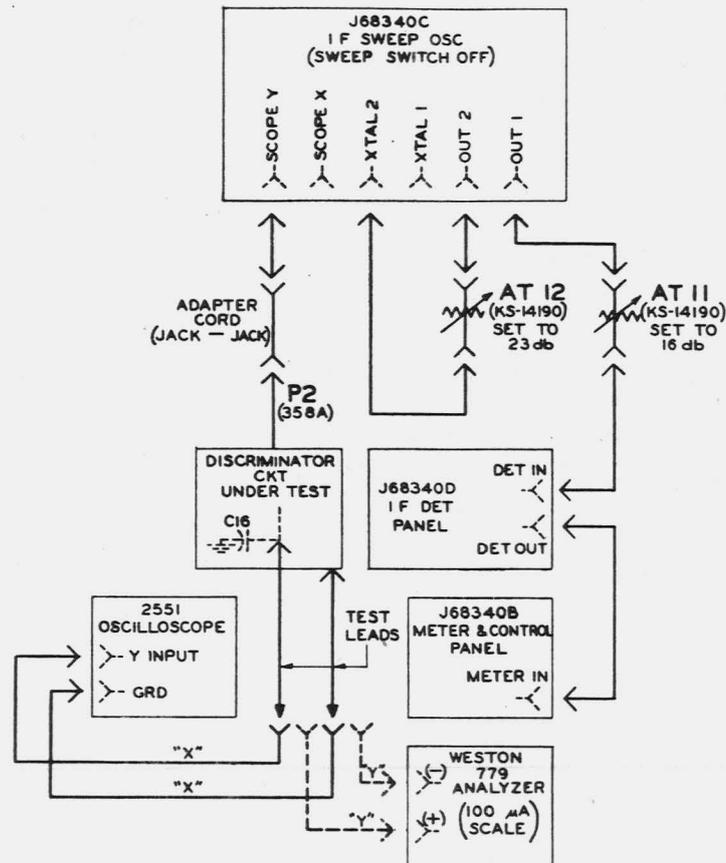

Fig. 2 - Circuit to Check Discriminator Cross-Over Frequency and Polarity
- (1) For this and subsequent tests, AC power should be applied to terminals 1 and 2 of TS1 on the IF sweep oscillator by extending the leads in the test bay local cable, taking care to avoid turnover.
- (2) Connect the apparatus as in Fig. 2, using "X" wiring. The IF sweep oscillator may be the unit under test providing the oscillator and 30 cycle switch sections are operable. It should be noted that the mercury relay will not operate properly if inverted or tilted more than about 30°. The discriminator need not be disconnected from the rest of the circuit, except for its input plug, P2. It is desirable to remove tube V8 if the circuit is left connected, to remove possible interference.
- (3) Adjust the SENSITIVITY control on the meter and control panel for an XTAL CURRENT meter reading of about 2/3 of full scale.
- (4) The oscilloscope should be operated at nearly full gain, with any convenient internal sweep. The BLANKING switch should be set to OFF.
- (5) There should be two horizontal traces on the oscilloscope. Rotate the sweep condenser by hand until the traces exactly coincide. This is the frequency at which there is zero voltage from the discriminator.
- (6) Measure this frequency by tuning the FREQ METER dial until there is a slight dip on the XTAL CURRENT meter.
- (7) If this requirement cannot be met, crystals CR1 and CR2 or resistors R24 and R25 are probably unbalanced at IF frequencies.
- (8) Set the frequency of the oscillator in the vicinity of 85 MC (above crossover.)
- (9) Using "Y" wiring in Fig. 2, note on the analyzer that the polarity of the discriminator output voltage is positive with respect to ground. This insures that when the IF sweep pattern is displayed on the oscilloscope in the normal fashion the highest frequency will be on the right-hand end of the sweep.
- (10) If the output voltage is not positive, the polarity of one or both crystals is probably reversed.